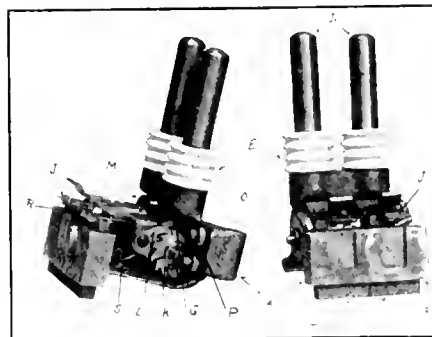

FIG. 31. BRUSH HOLDER
important parts of the railway motor and the general construction is shown by Fig. 31. As the name implies, this part of the motor is to carry the brush "1" which is in contact with the commutator and through which current flows into and out of the armature coils. Brushes are blocks of carbon or graphite which fit the holder "A" snugly but not tightly. The brushes can move up and down vertically but should not be loose in the holder.
A. Yes. These brush-holders must be exactly located so as to bring the brushes to exactly the neutral points. To secure this, the clamps which hold the brush-holders are located by template. At the same time these holders must be insulated from the clamps and this is done as follows:—Referring to Fig. 31 the main casting (A) is fitted with two rods about  $\frac{3}{8}$  in. to  $\frac{1}{2}$  in. diameter, over which are placed mica tubes. To protect this insulation a thin brass tube (D) is placed over the mica. Just previous to assembling the brass tubes the corrugated porcelain insulators (E) are put in place and the whole sealed by an insulating compound. The corrugated insulators are to increase the creepage distance from the holder, which has the full voltage, to the brass sleeves which is ground. With this method of clamping the whole holder can be moved up and down and proper clearance obtained between the commutator and the face (F).
A. To get proper contact between the brushes and the commutator it is necessary to maintain a pressure on the brushes. This is accomplished by the spiral clock spring (G) made of phosphor bronze or of spring steel, which transmits its pressure to the brush through the hammer (J). Different pressures are required for different conditions and the spring tension can be adjusted by the ratchet (K) and pawl (L). To prevent heating of the spring, and thus loss of tension, a copper braid, called a shunt (M) is provided which conducts the current around the spring or shunts it. One end of this shunt is fastened to the hammer by the rivets (R) and the other to the main holder by rivets (S). The wire which carries the current to the holder